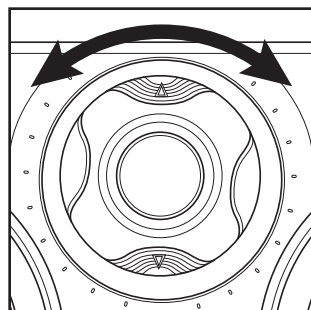

Figure 19. Rotating the HDLCR’s tweeter.
2. Rotate the tweeter housing either clockwise or counter-clockwise as required. The mechanism is indexed at equal intervals so that speakers in a pair can be adjusted equally. Simply count the number of “clicks” as the first tweeter is adjusted. Repeat the process for the second speaker, rotating the tweeter the same number of “clicks” in the opposite direction, as shown in **Figure 19**.